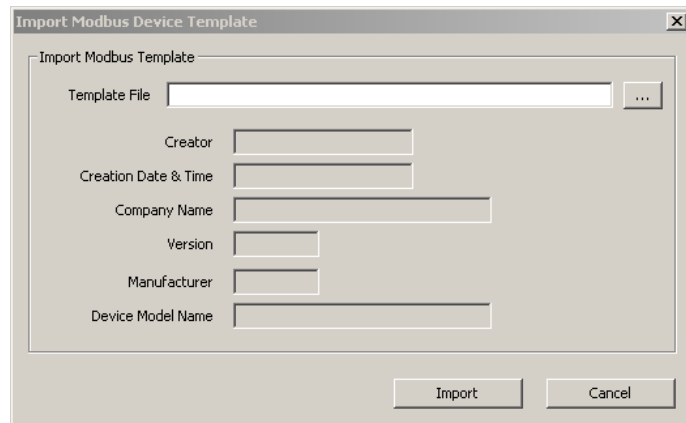

Figure 279 Import Device Template dialog.
2. This opens the **Import Modbus Device Template** dialog shown in Figure 279.